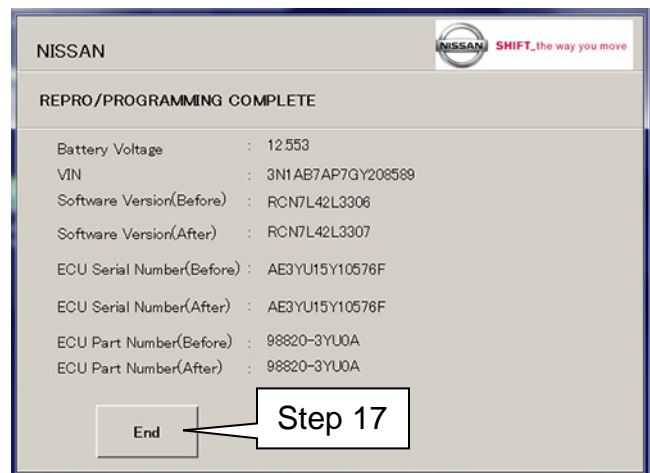

Figure 9
- Once the reprogramming has finished the screen in Figure 9 will be displayed.